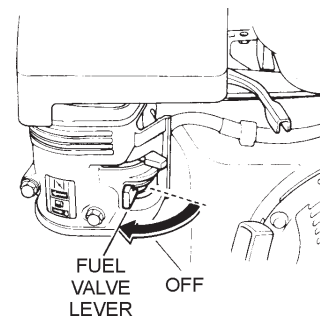

Figure 19. Fuel Valve Lever (OFF)
- Place the **fuel shut-off lever** (Figure 19) in the “OFF” position.